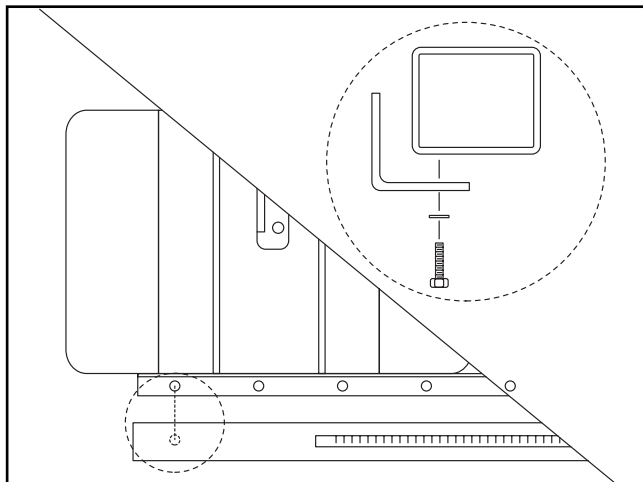

Figure 11. Attaching fence tube to front rail.
4. Attach the square fence tube to the front rail using the hex bolts and lock washers as shown in **Figure 11**.